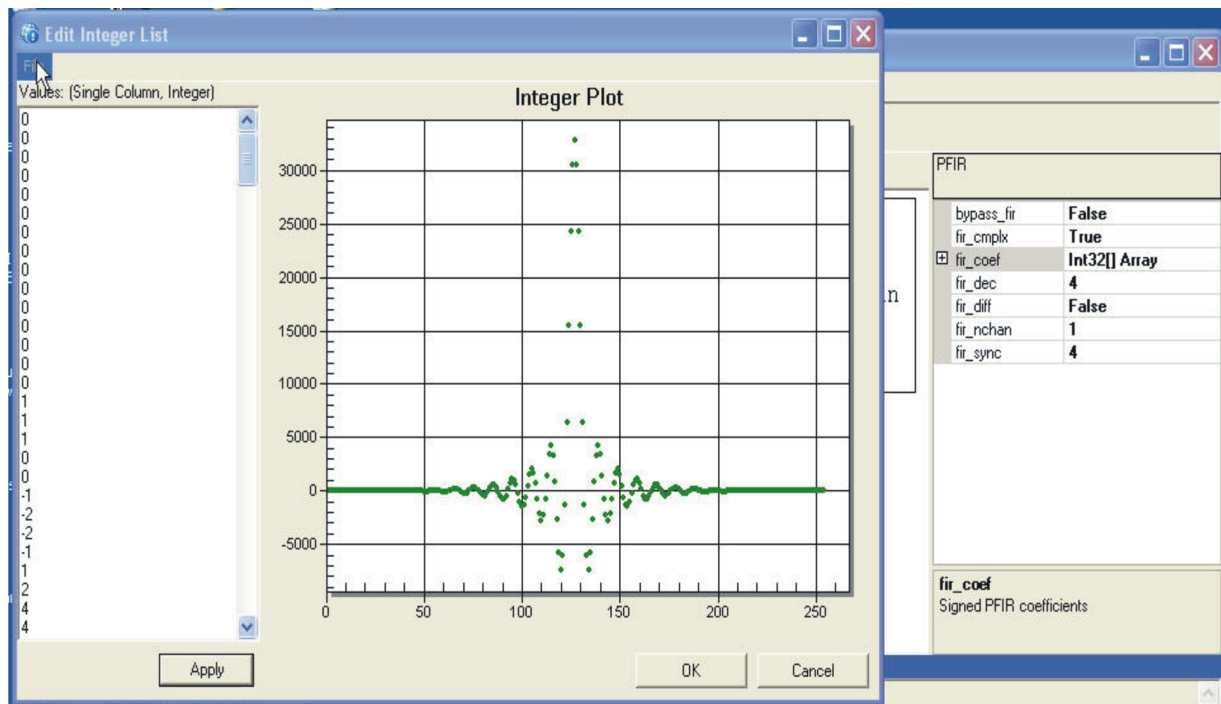

Figure 44. GC Studio DDC — PFIR Select Coefficient File
- Use the File button above the Values title, and open the File Browse box (see Figure 44).